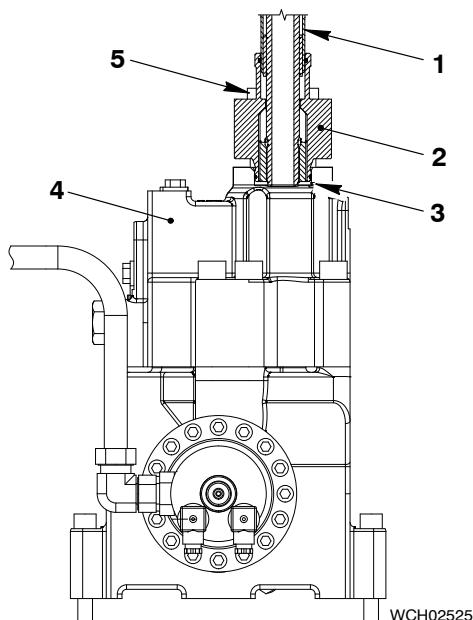

Fig. 2
- 5) Put an oil tray under the applicable hydraulic pipe (1, Fig. 2).
- 6) Loosen the screws (5) on the flange (2) to drain the applicable hydraulic pipe (1) through the check bore (3) in the housing of the VCU (4).